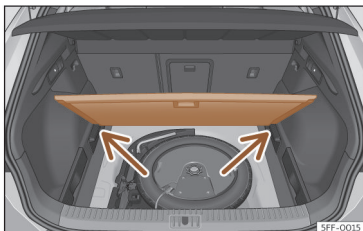

Fig. 192 Variable luggage compartment floor: tilted position.
- Rest the floor on its housings >>> **Fig. 192** (arrows).